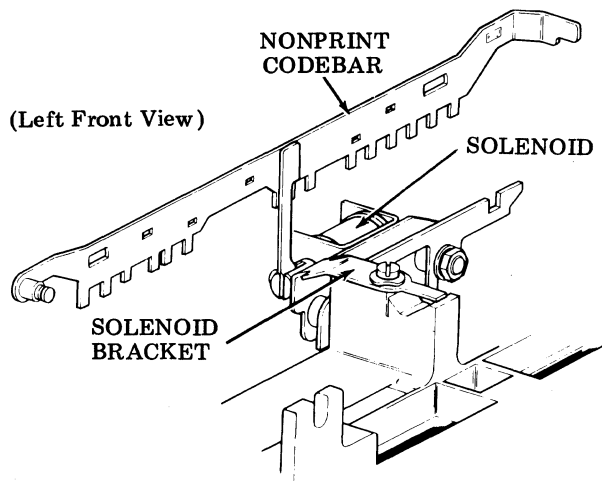

Figure 5 - 183986 A Through D Solenoid Operated Print-Nonprint Kits
2.24 The print-nonprint modification consists basically of a solenoid which operates a nonprint codebar (Figure 5). A toggle switch and an indicator lamp activate the mechanism. When turned on, the solenoid energizes moving the nonprint codebar to the right. In this position, the nonprint codebar blocks all the function levers from rising during the function cycle except the print suppression function lever. The print suppression function lever rises every cycle to suppress printing.